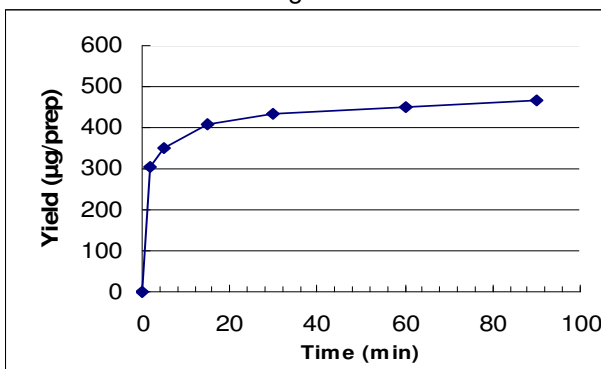

Figure 1: The effect of binding time on yield
\* Yield and total protocol time depend on binding time used. See figure 1 on page 3.
7. In order to obtain higher yields the sample incubation time in step 2 of the protocol can be increased as shown in Fig.1.
2. Collect the magnetic particles from vessel 2 and release them in vessel 3 (Wash Buffer 1). Suspend the magnetic particles thoroughly with the PickPen® tip and mix briefly and gently. Transfer the magnetic particles from vessel 3 into vessel 4 (sample). Mix them thoroughly into the solution and incubate at room temperature for 5-90 minutes (See figure 1 on page 3 for time-course data on yield). Mix the solution continuously to avoid sedimentation.